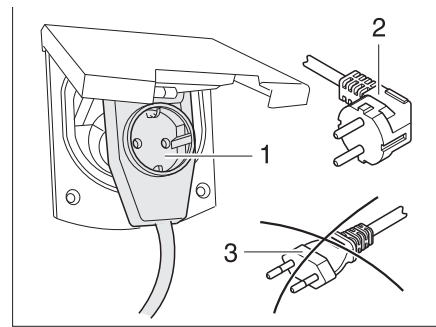

Fig. 284 Connecting an angled connector with socket
▶ When using a CEE 17 angled connector with rear socket (Fig. 284,1) only use a rubberised and sealed IP 44 socket with earth contact (Fig. 284,2). Do not use sockets without earth contact (Fig. 284,3). Danger of electrocution!